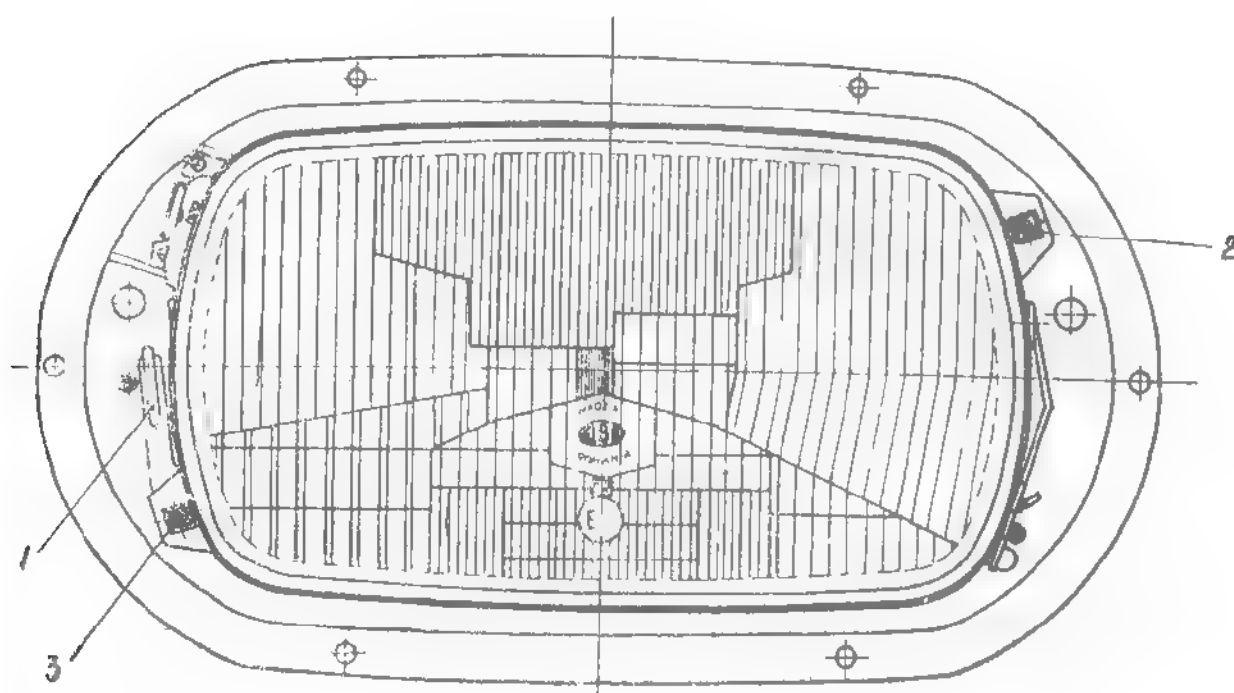

Fig. 2.56. **F E R** RECTANGULAR HEADLAMP
On the "F E R" rectangular headlamp (see fig.2.56), the rocking lever (1) should be to the left, when the car is loaded, and to the right, when it is unloaded.